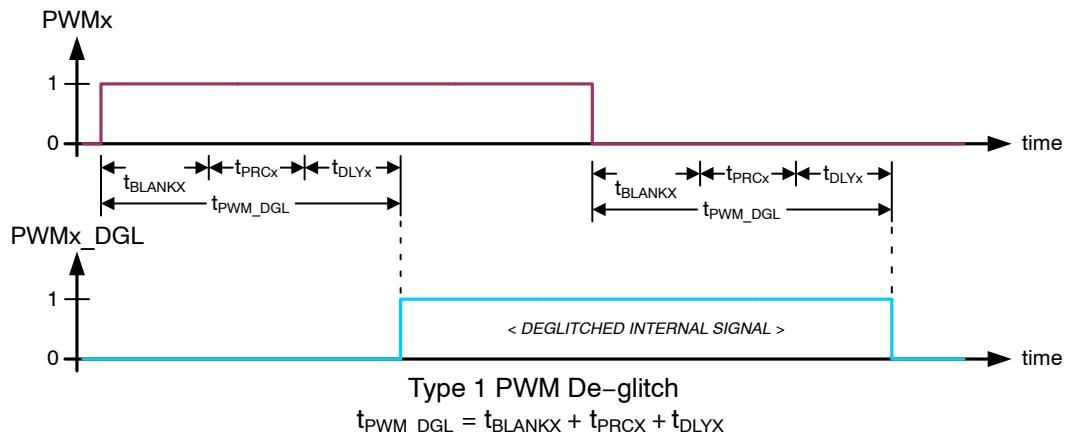

Figure 10. Type 1 PWMx Input De-glitch - CR14.DGLx = 0
When multiple PWMx inputs are needed to be active, the scheduled PWM signals should be offset in time to avoid degradation of the VDS overload detection due to crosstalk (see § *Overload Protection*). The minimum offset should be based on the tPWM\_DGL times appropriate for the respective channels (see § *Switching Behavior of Half-bridge Drivers*, Figure 10 and Figure 11).
- adaptive PWM input de-glitch construction when in half-bridge configuration is selected by  $DGLx[6:0]$  bits (see Figure 10, Figure 11, Table 21 and Table 22).
When operating HB1...HB7 in PWM mode and in half-bridge configuration, type 1 de-glitch is selected when CR14.DGLx = 0 (see Figure 10) and the adapted time is given by:
- the PWMx\_DGL resulting from the channel's operating configuration (see § *Switching Behavior of Half-bridge Drivers*, Figure 10 and Figure 11);